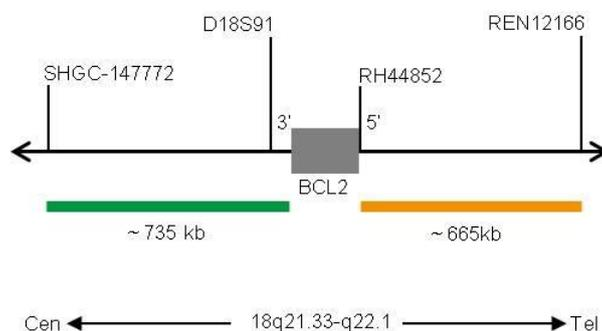
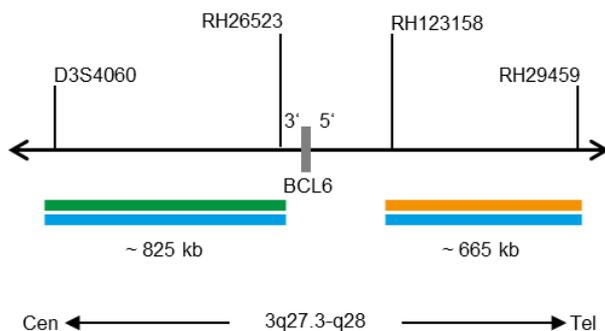

Fig. 1: SPEC BCL2 Probe map (not to scale)
Fig. 2: SPEC BCL6 Probe map (not to scale)
- ZyGreen (excitation 503 nm/emission 528 nm) labeled polynucleotides (~10.0 ng/ $\mu$ l), which target sequences mapping in 18q21.33\* (chr18:60,046,152-60,779,138) proximal to the BCL2 breakpoint region and in 3q27.3\* (chr3:186,578,337-187,403,834) proximal to the BCL6 breakpoint region (see Fig. 1 & Fig. 2)
- ZyOrange (excitation 547 nm/emission at 572 nm) labeled polynucleotides (~2.5 ng/ $\mu$ l), which target sequences mapping in 18q21.33-q22.1\* (chr18:60,994,528-61,658,503) distal to the BCL2 breakpoint region and in 3q27.3-q28\* (chr3:187,744,962-188,411,425) distal to the BCL6 breakpoint region (see Fig. 1 & Fig. 2)
- ZyBlue (excitation 418 nm/emission 467 nm) labeled polynucleotides, (~70.0 ng/ $\mu$ l), which target sequences mapping in 3q27.3\* (chr3:186,578,337-187,403,834) proximal to the BCL6 breakpoint region co-localizing with the green-labeled BCL6 polynucleotides and in 3q27.3-q28\* (chr3:187,744,962-188,411,425) distal to the BCL6 breakpoint region co-localizing with the orange-labeled BCL6 polynucleotides (see Fig. 2)